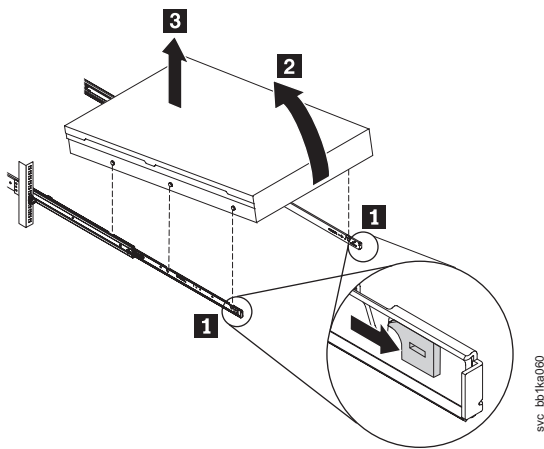

Figure 37. Removing the SAN Volume Controller 2145-CF8 from the rack
4. Pull forward the two white catches ( **1** in Figure 37) on the side of the rails, and lift up the front of the node very slightly.